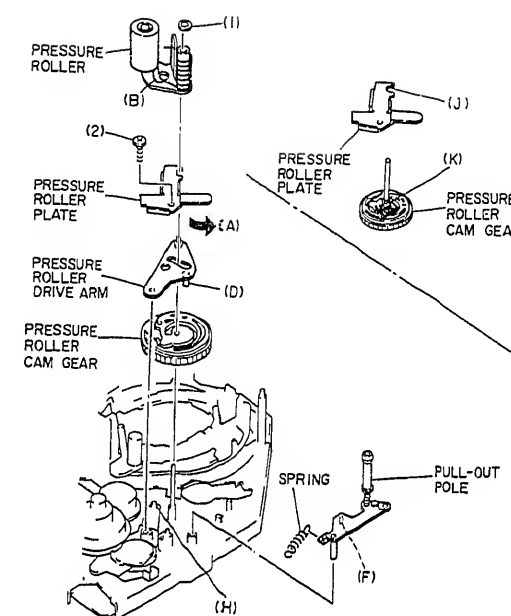

Fig. 2-8
## 2-7. Pressure roller (fig. 2-8)
## 2-8. Pressure roller plate, pull-out pole, pressure roller drive arm, pressure roller cam gear (Figs. 2-8, 2-9)
- 1) Remove screw (2) holding the pressure roller plate. (See Fig. 2-8)
- 2) Move the pressure roller plate in the direction of arrow (C) and remove the pressure roller plate. (See Fig. 2-8)
- 3) Remove the spring. (See Fig. 2-8)
- 4) Pull out the pull-out pole from the chassis. (See Fig. 2-8)
- 5) Remove the pressure roller drive arm from the chassis. (See Fig. 2-8)
- 6) Pull out the pressure roller cam gear from the pressure roller shaft. (See Fig. 2-8)
- Reinstall the pressure roller drive arm so that pin (D) of this arm is inserted into groove (E) in the surface of the pressure roller cam gear. (See Figs. 2-8, 2-9)
- Reinstall the pull-out pole so that pin (F) of this pole is inserted into groove (G) in the surface of the pressure roller cam gear. (See Figs. 2-8, 2-9)
- Reinstall the pressure roller cam gear so that pin (H) of the cassette holder lock arm is inserted into groove (I) in the back of the pressure roller cam gear. (See Figs. 2-8, 2-9)
- Reinstall the pressure roller plate (J) by inserting it into the groove (K). (See Figs. 2-8)